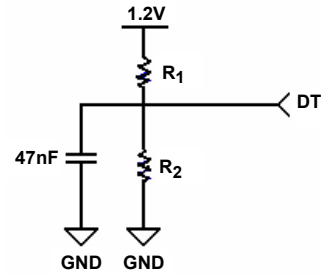
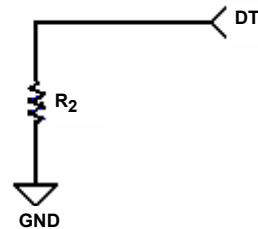

FIGURE 33A.
FIGURE 33B.
The QLX4600-S30 is capable of maintaining periods of line silence on any of its four channels by monitoring each channel for Loss Of Signal (LOS) conditions and subsequently muting the outputs of a respective channel when such a condition is detected. A reference current applied to the Detection Threshold (DT) pin is used to set the LOS threshold of the internal signal detection circuitry. Current control on the DT pin is done via one or two external resistors. Nominally, both a pull-up and pull-down resistor are tied to the DT pin (Figure 33A), but if adequate control of the supply voltage is maintained to within  $\pm 3\%$  of 1.2V, then a simple pull-down resistor is adequate (as in Figure 33B). Resistors used should be at least 1/16W, with  $\pm 1\%$  precision.
The internal bias point of the DT pin, nominally 1.05V, is used in conjunction with the voltage divider ( $R_1$  and  $R_2$ ) shown in Figure 33A to set the reference current on the DT pin.
For channels exhibiting more than 25dB of total loss (this includes cable or FR-4 loss) the DT pin should be configured for a reference sink current (coming out of the DT pin) of approximately  $2\mu\text{A}$ . A typical configuration for a  $2\mu\text{A}$  sink current is given in Figure 33C. If the configuration in Figure 33B is utilized, a  $525\text{k}\Omega$  resistor would be used.